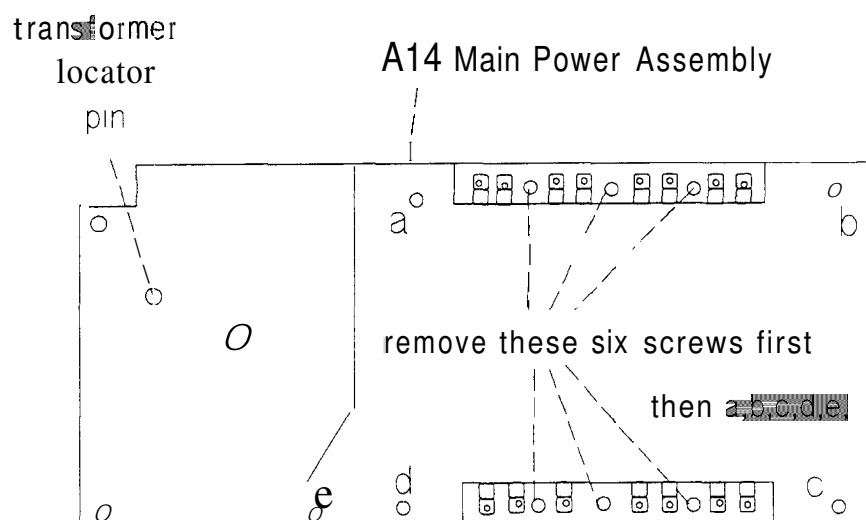

Figure 5-26. A14 securing screws
5. On reassembly ensure that the transformer locating pin Figure 5-26 fits into its correct location.
1. Free the A14 assembly by removing the screws shown in Figure 5-26. The assembly then lifts out to the left.